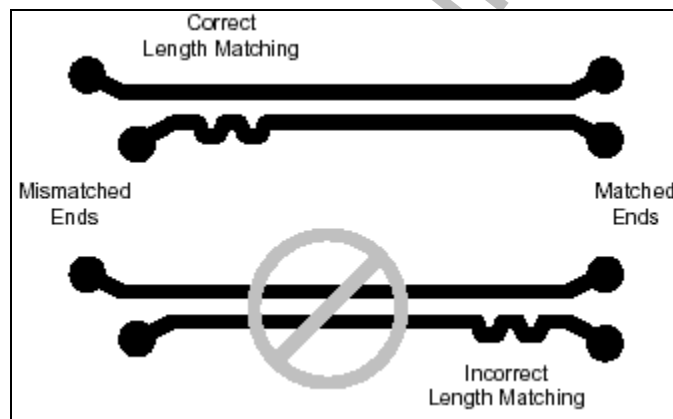

Figure 4: Correct and incorrect Mismatching examples
- Keep SATA signals to travel to the exact same symmetric environment and to the same reference GND plane. If there are some SATA signals mismatching existed, keep all the mismatch elements at one end as shown in Figure 4, and let the remaining traces to keep the maximum matching condition.